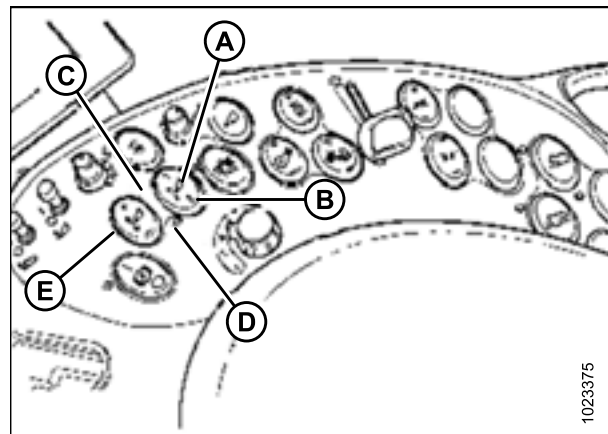

Figure 4.60: Case Combine Controls
You can fine adjust these set points by using FINE ADJUST switch (E) in figure 4.60, page 120.